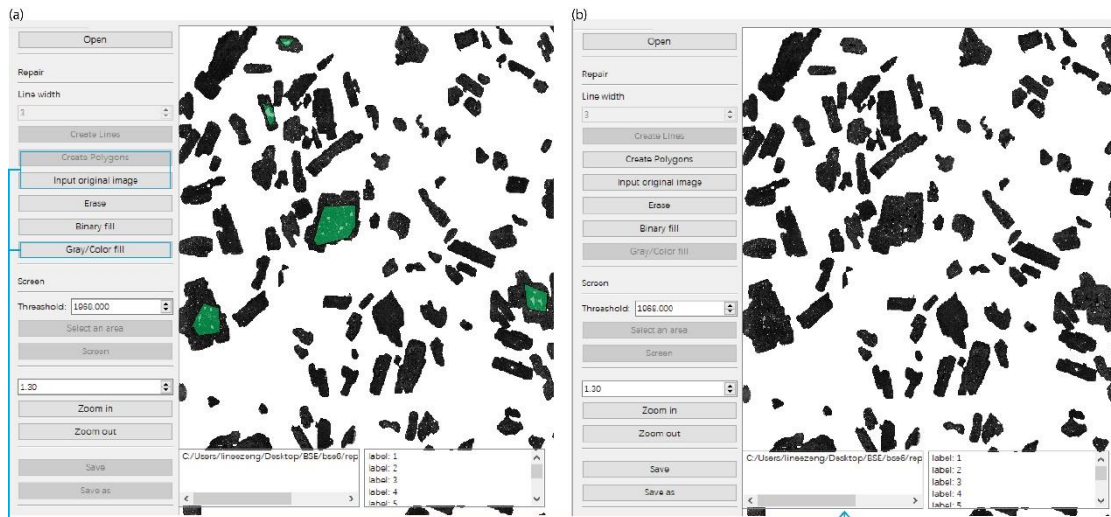

Fig. 9 How to fill the holes inside grains by “Gray/Color Fill”
- **Erase** can be explored to separate those connected grains by creating lines. For example, set the width of line and “Create lines” as those red lines in Fig 8a, and then click “Erase” and those connected grains are separated in Fig. 8b. **Erase** can also remove some extra of grains by creating polygon as shown in Fig. 9.